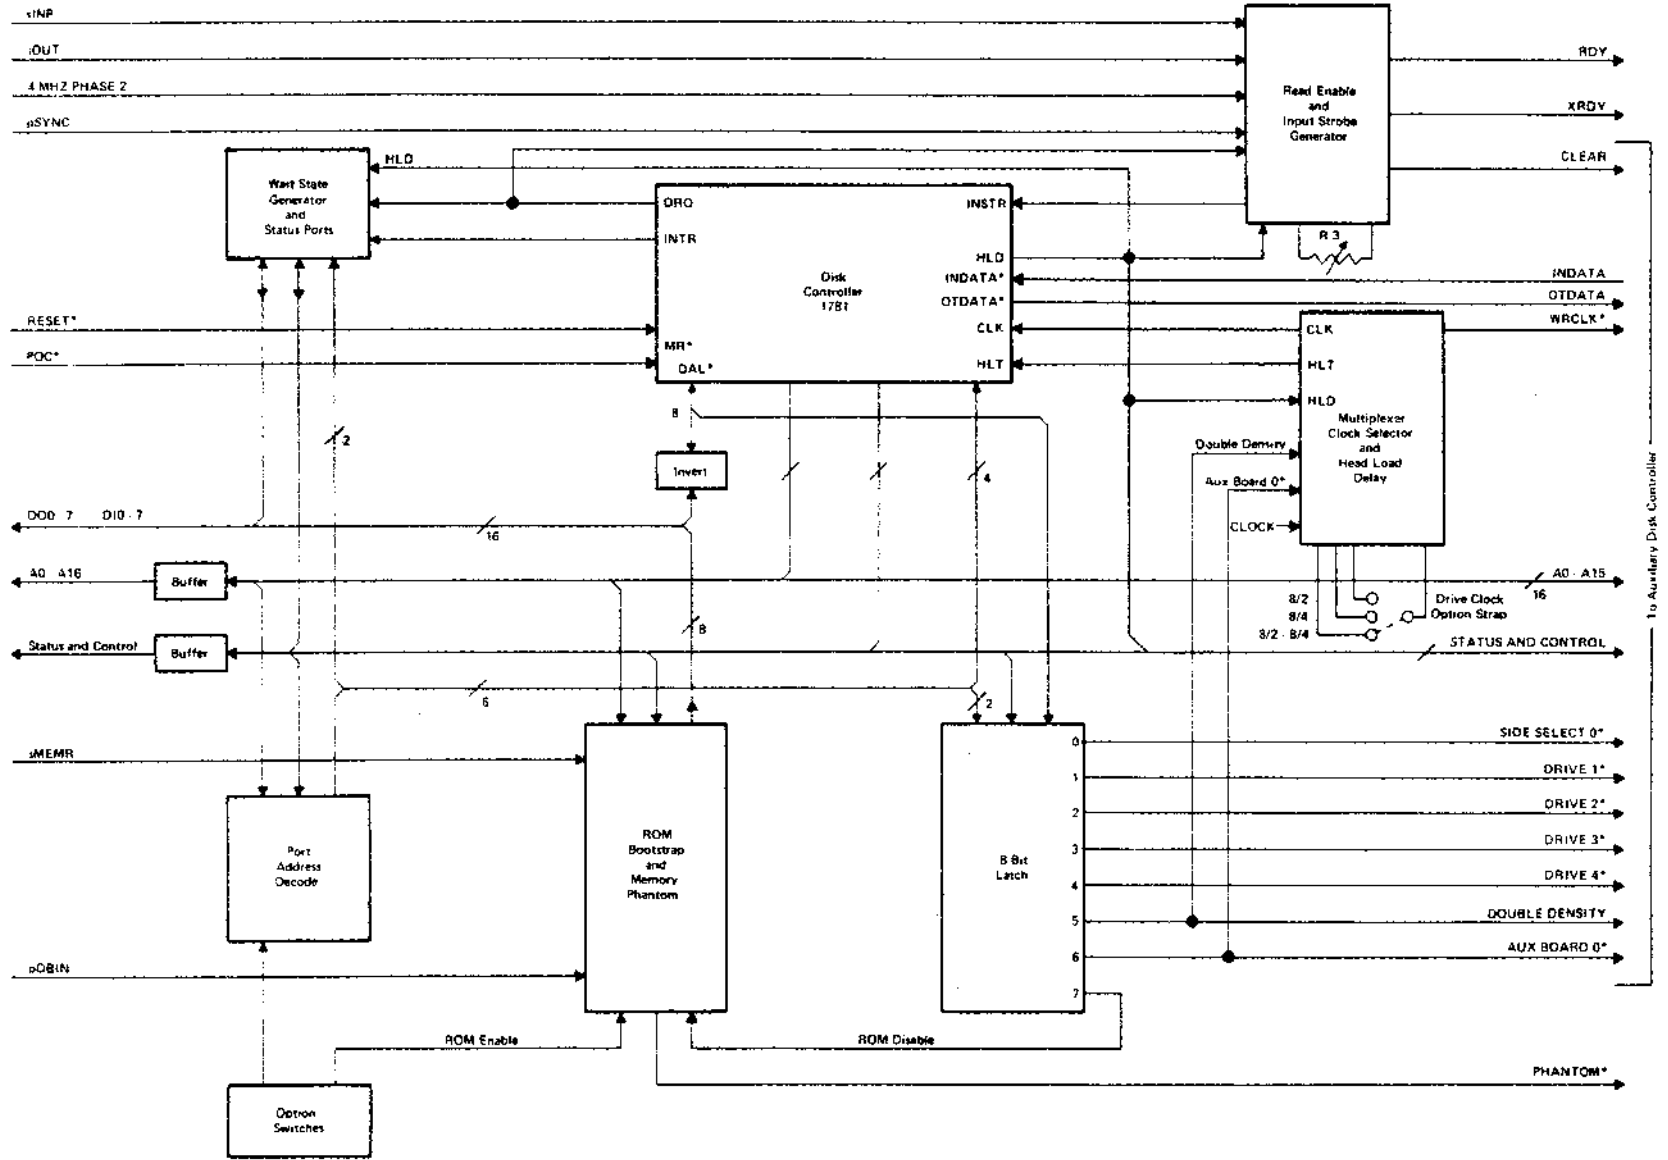

Figure 3-1 – Main Disk Controller Functional Block Diagram
3.05 Figures 3-1 and 3-2 illustrate the Main and Auxiliary Controllers in block diagrams and should be used in conjunction with the logic diagrams in Part 7 for the description which follows. Table 3-1 tabulates the S-100 Bus signals used by the Disk Controller.
3.07 The main data transfer function performed by the *1781 Disk Controller* is to convert 8-bit parallel DAL* to serial OTDATA on write operations and serial INDATA to 8-bit parallel DAL* on read operations. Figure 7-4 details the function of each device line. Figure 3-1 summarizes and illustrates the most significant of these lines. Drive control lines have been omitted.